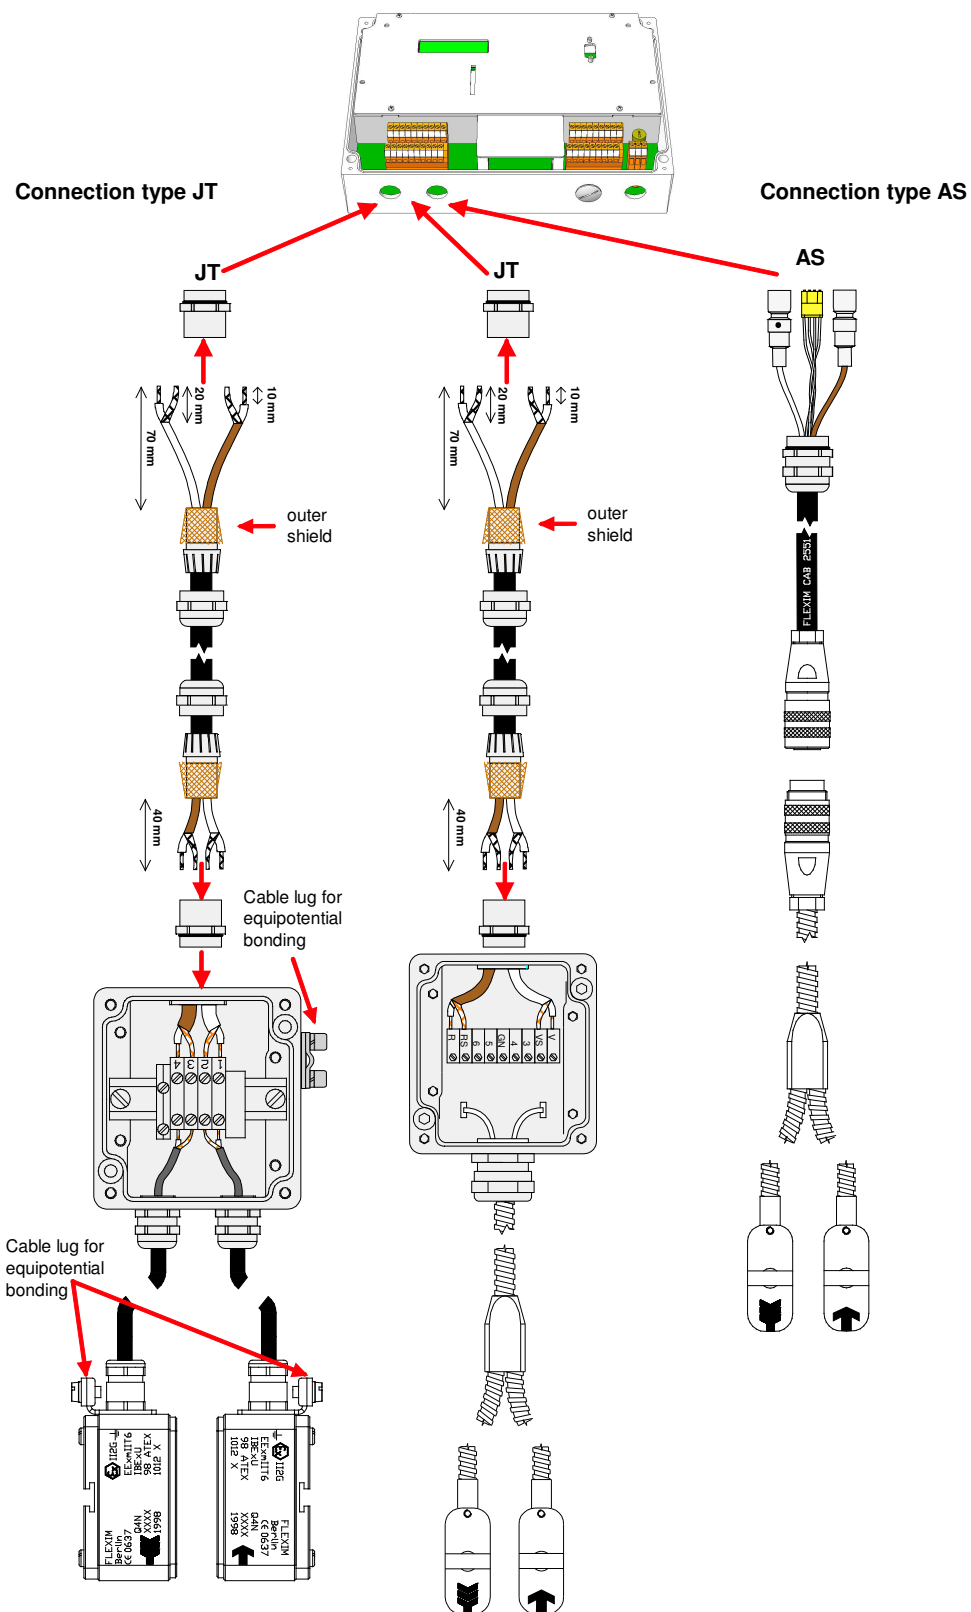
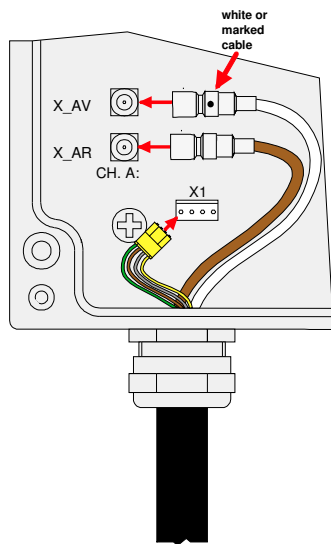

Fig. 4.5: Connection of the transducers
Fig. 4.6: Terminals for the connection of the transducers, connection type AS
- Insert the AMP-Quick and SMB connectors into the corresponding sockets (see Fig. 4.5 and Fig. 4.6).
- Prepare the connection cable as illustrated in Fig. 4.5.
- Connect the leads to the terminals of the junction box as illustrated in Fig. 4.5.